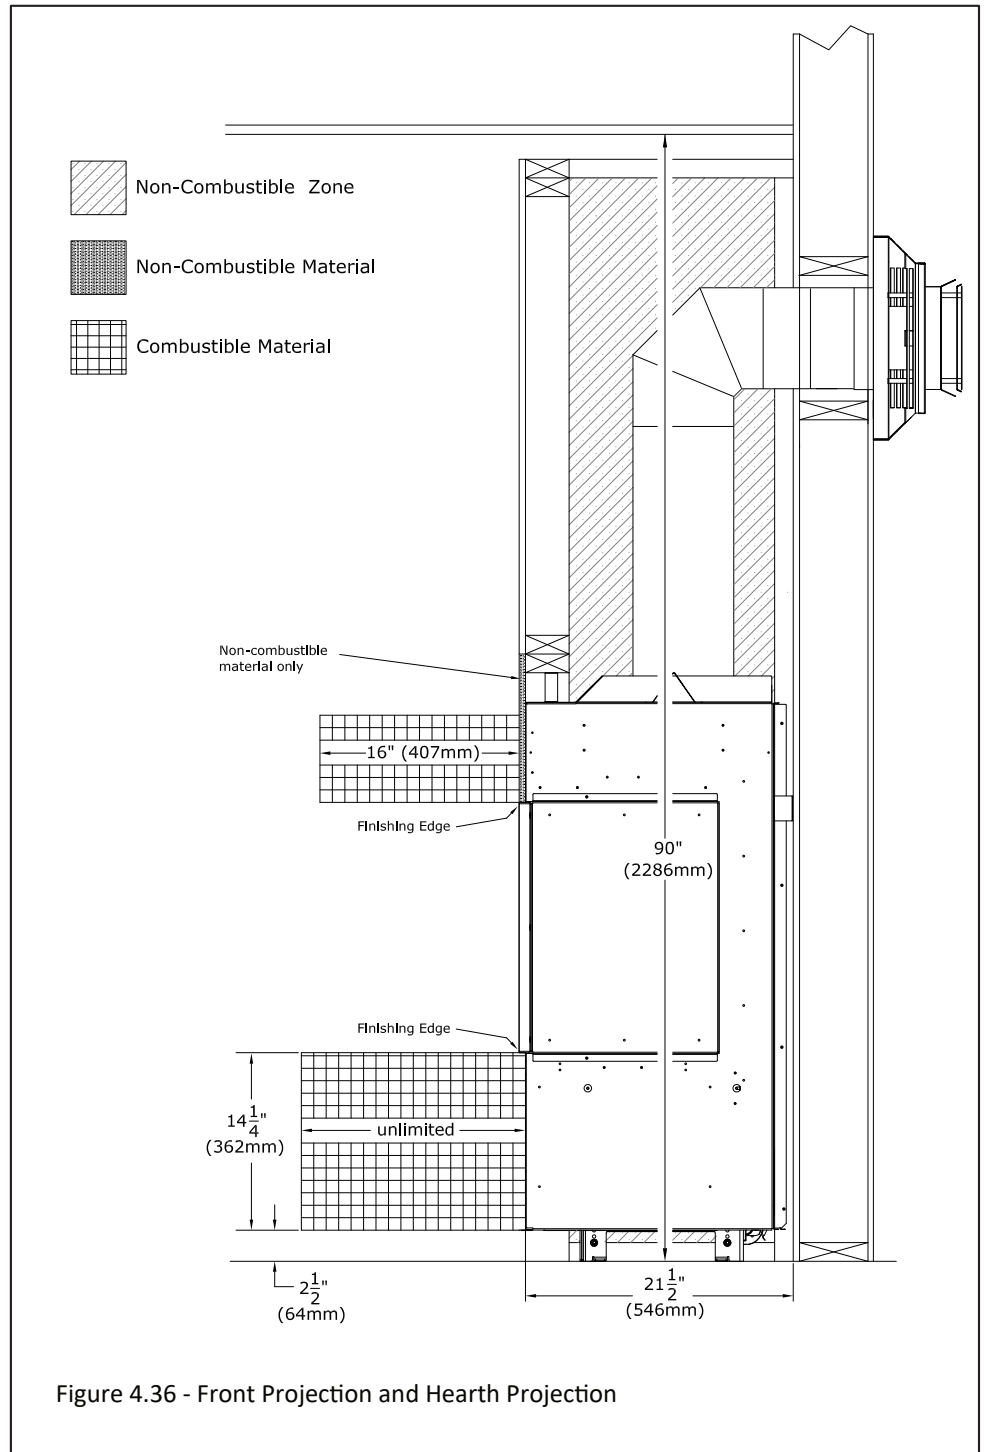

Figure 4.36 - Front Projection and Hearth Projection
- **Combustible Mantel Projections:** A maximum of a 16" (406mm) mantel can be installed flush at the side and top finishing edge. See Figure 4.36.
- **Combustible Hearth:** Combustible hearth can have an unlimited projection. Hearth can be raised flush to the bottom finishing edge. See Figure 4.36.